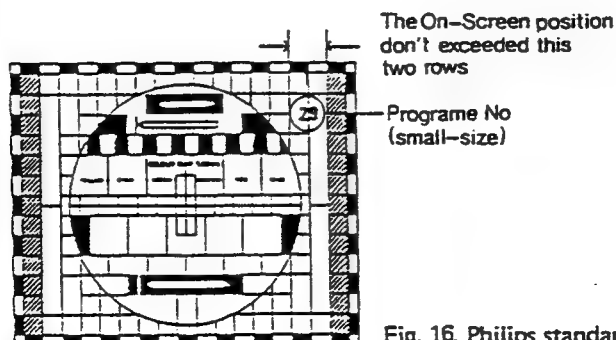

Fig. 16. Philips standard colour pattern
- (d) Adjust C413 for the programme No "29" (small size) position as shown in Fig.16.